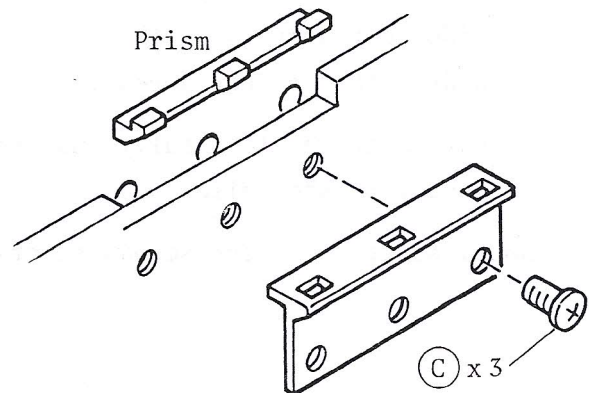

Fig. 96
1. Install it in facing the prism upward. (Fig. 96)